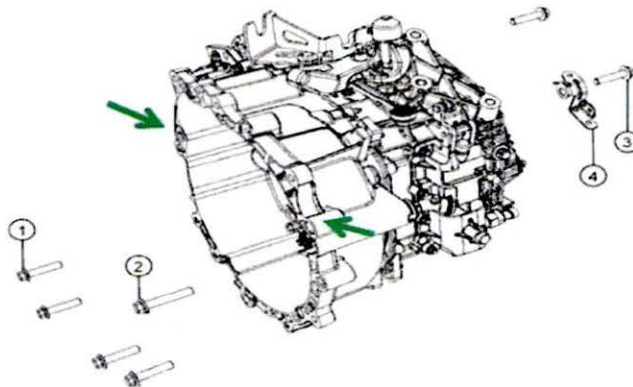

Fig. 9 C635 Transaxle
24. Evenly secure the two fasteners at two doweled locations (identified by arrows in diagram below (Fig. 9) - one is the lower starter bolt) to close the gap between engine & transmission, alternating tightening at each of the two fasteners as required to assure gap closes evenly. Torque the bolts to 50 NM (37 ft. lbs.).